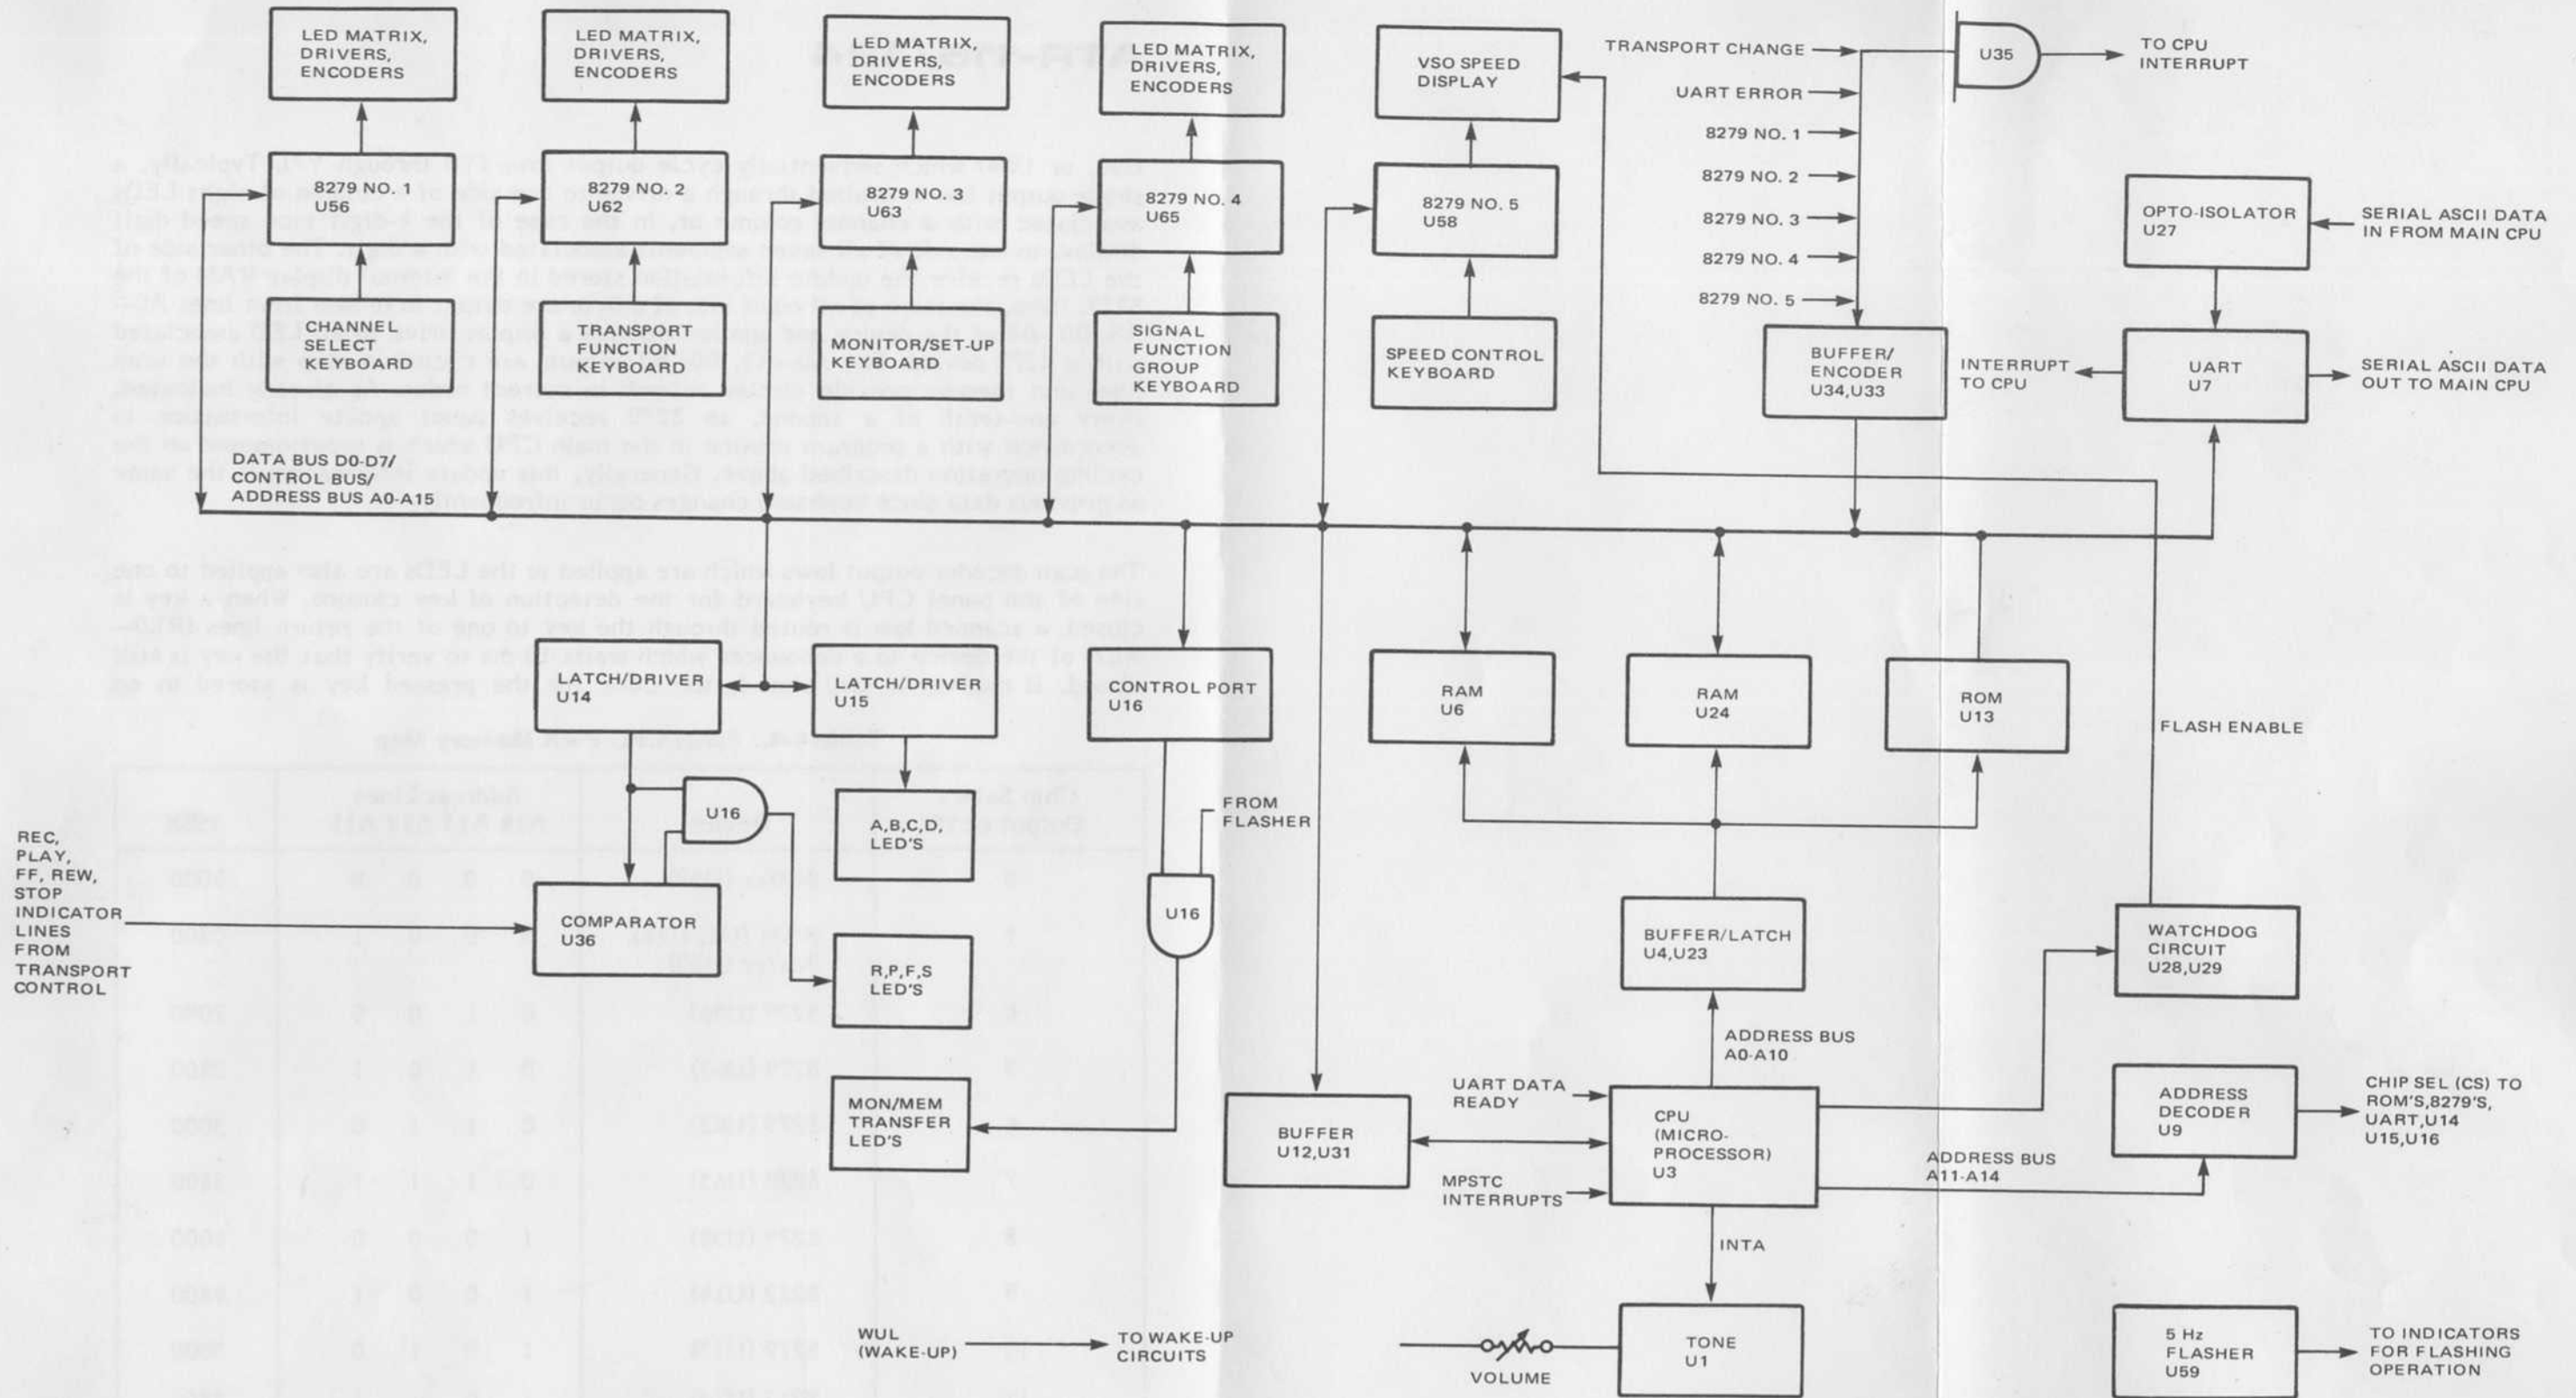

Figure 4-12.
The panel CPU is used to send keyboard command signals to the main CPU for processing and to receive from the main CPU update information for the 270-LED lamp display of the panel. The panel CPU (Figure 4-12 and Schematic No. 4840589) is comprised of a membrane switch panel overlaid on an LED lighting panel which in turn is overlaid on a panel containing integrated circuit (IC) components. These IC components include an 8085A microprocessor (U3), an address decoder (U9), two RAMs (U6 and U24), an EPROM (U13), a universal asynchronous receiver/transmitter (UART) (U7), five 8279 programmable keyboard/panel display interface